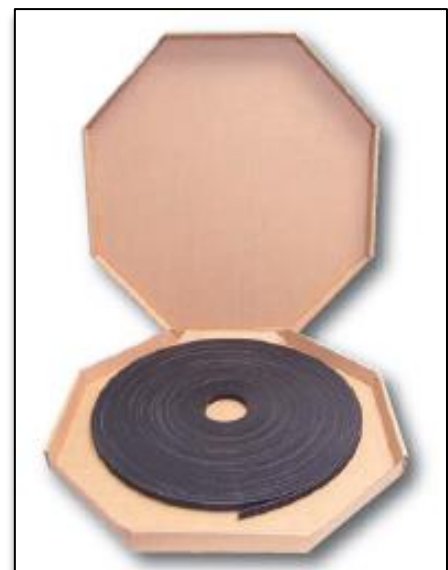

Figure 7
- Pitch ≤ 6 mm and width ≤ 15 mm: the belts must be conserved in cartoon boxes and sealed with a transparent cellophane layer (Figure 7).